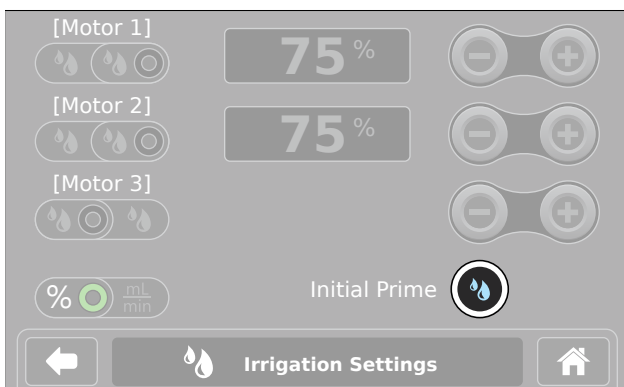

Figure 18 – Irrigation Settings (Initial Prime)
2. Touch  (**Initial Prime**) to prime the irrigation cassette (Figure 18).